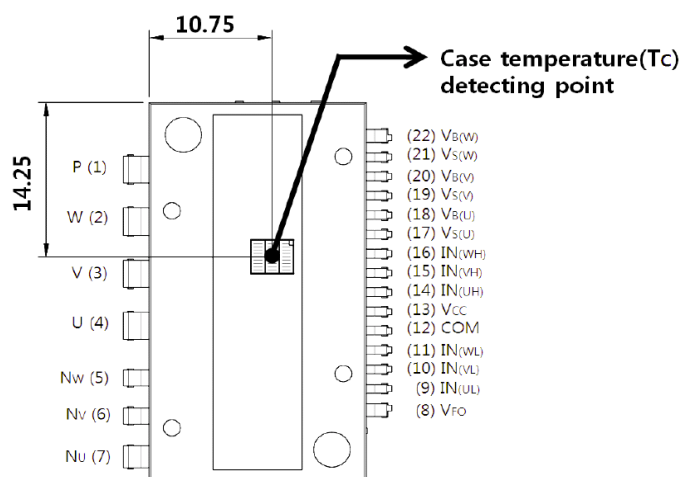

Figure 6. Case Temperature (TC) Detecting Point
3. For the measurement point of case temperature (T_C), please refer to Figure 6.